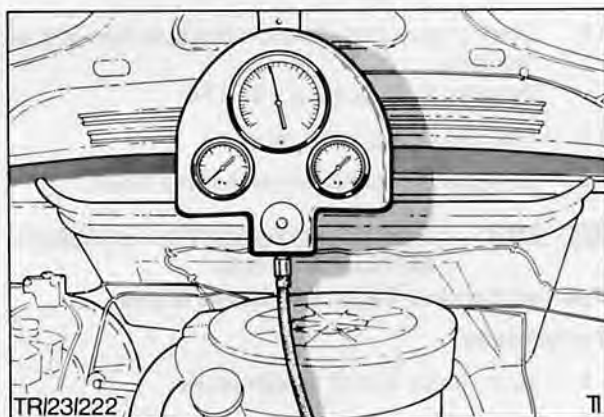

Fig. 67. Pressure gauge connected to fuel pump for pressure check
4. Check pump delivery pressure, Fig. 67, by starting engine and recording pressure at idle speed. Momentary race engine and again note pressure. Refer Technical Data.